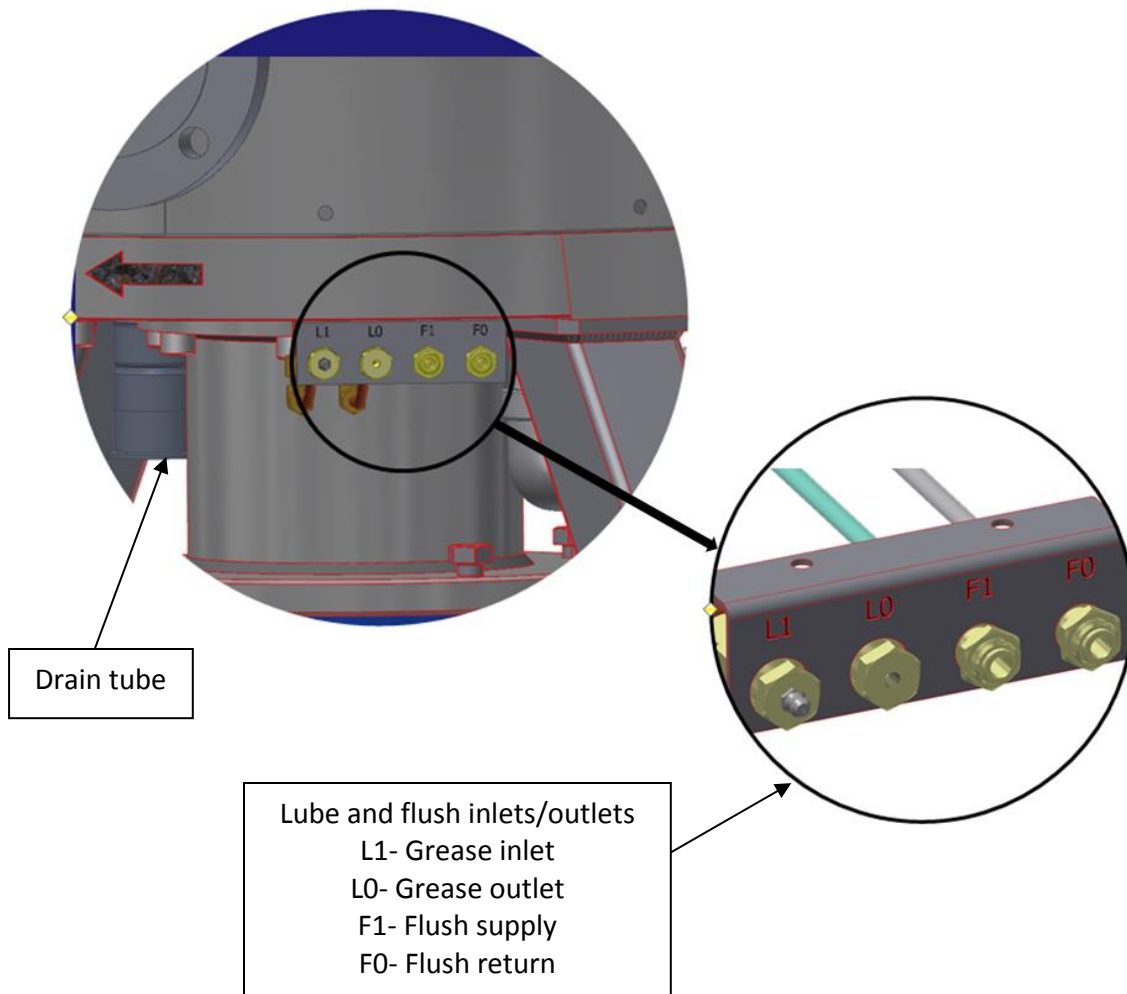

Figure 5-2: CONTHERM MAX seal flush ports
Make sure you have access to a water source for the flush seal. Water can be supplied through plastic water tubing from the water supply system and can be connected to a push to connect tube fitting (pressure fitting) for water as shown in fig. 5-2. The water return is configured in the same way with a plastic tubing and push to connect fittings. The flow rate very much depends on the speed, pressure and temperature of both the product and the incoming water. We recommend that you set a desired temperature increase of the water passing through the seal and adjust the flow accordingly. Without additional information we recommend less than 1 bar pressure.
- Some early seepage around the product seals is normal. This would be visible via the drain tube located at the bottom of the CONTHERM MAX (see Fig. 5-2 –Page 19). Any leak should disappear as the seals seat themselves.